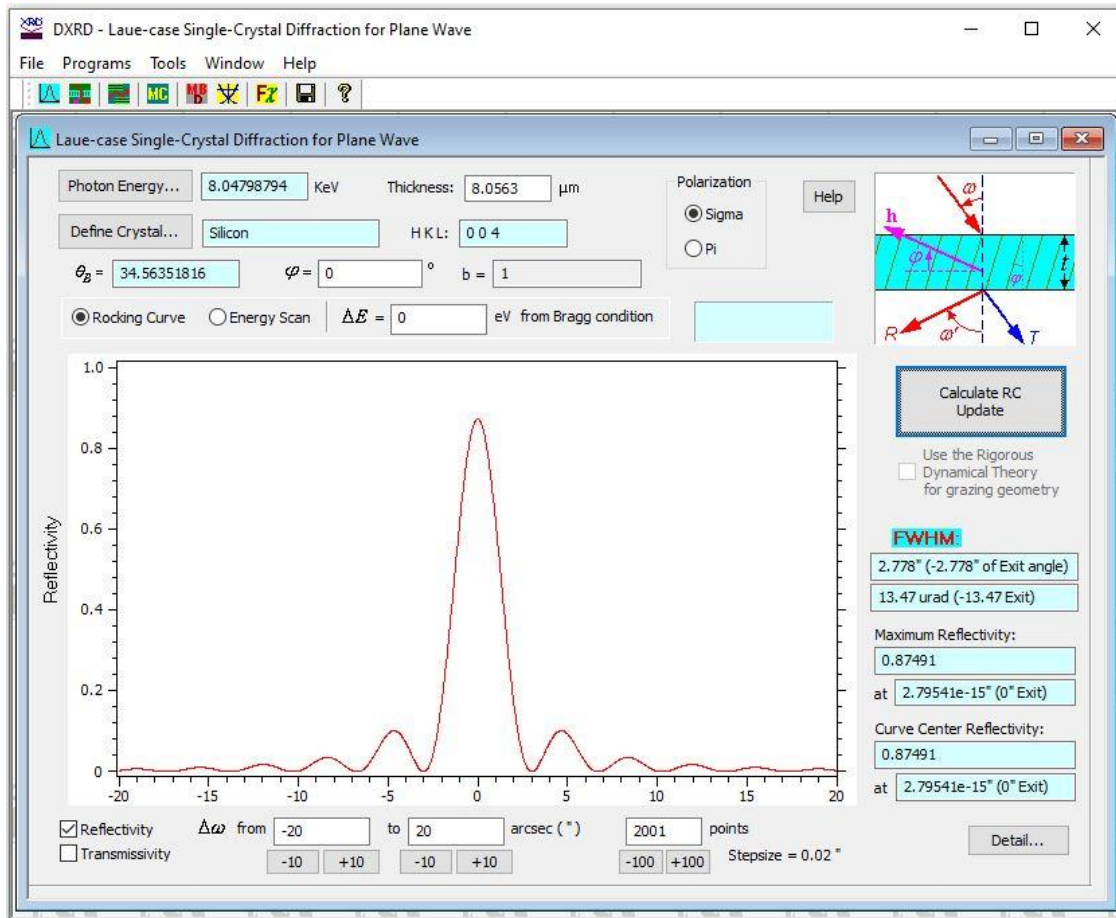

Figure A2. The Laue-case Diffraction program.
This program is similar to the above Bragg-case program. The major difference is that the “**Incident Angle ω** ” and the “**Exit angle ω'** ” are defined differently with respect to the Crystal Surface, see Figure A2. Also see the definition of the **Asymmetric Angle φ** . The crystal thickness for the Laue case must always be finite (> 0 , NOT -1). The Reflectivity (R) Curve for the Laue cases show oscillation fringes in most cases. In particular, thick crystals have rapid reflectivity oscillation. For a constant incidence angle, the reflectivity also changes periodically with crystal thickness, which is called the “**Pendellösung**” phenomenon. The periodicity is called the “**Pendellösung distance**”, denoted by $\tau(\Delta\omega)$. When the crystal thickness is $t = N\tau$, the reflectivity becomes 0 at $\Delta\omega$. The reflectivity is maximized when at $t = (N + \frac{1}{2})\tau$. Here $N = 0, 1, 2, \dots$ is an integer. In the “**Detail...**” dialog, both the analytical “**Pendellösung distance**” and “**Half Pendellösung distance**” derived from analytical equations are provided at the Curve Center. The analytical values may be accurate for low-absorption cases. Numerical calculations of τ has not been implemented yet.